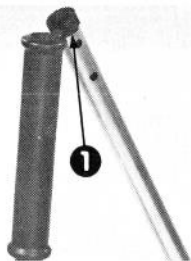

Figure 1.
2. Remove and discard the grommet from inside the upper handle (Fig. 1). **INSPECT SUPPLY CORD FOR DAMAGE. IF DAMAGED, DO NOT ASSEMBLE. CONTACT YOUR TORO DEALER.**